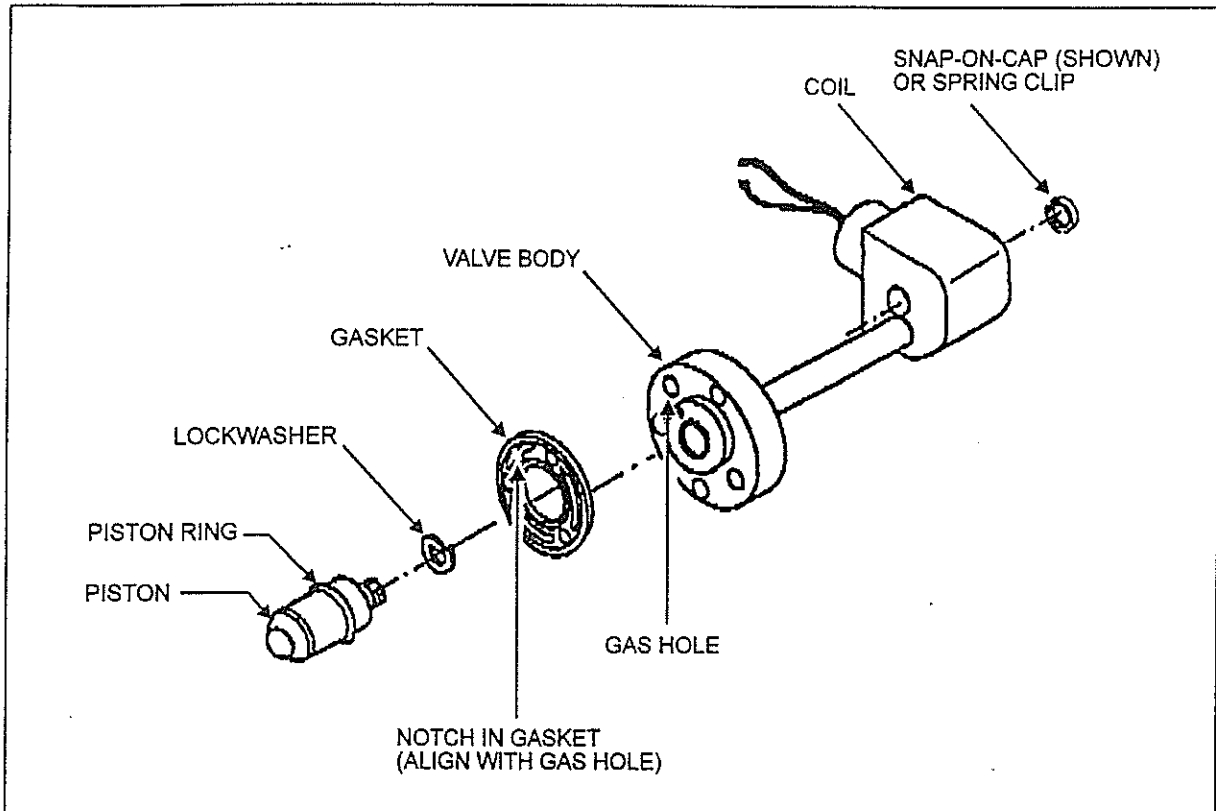

Fig. 1 - Electric Unloader Assembly
- c. Assemble electric unloader as illustrated in figure 1.
- d. Install the new electric unloader using the new gasket supplied with it. When installing the gasket, align the small crescent-shaped cutouts in the gasket with the gas port (figure 1).